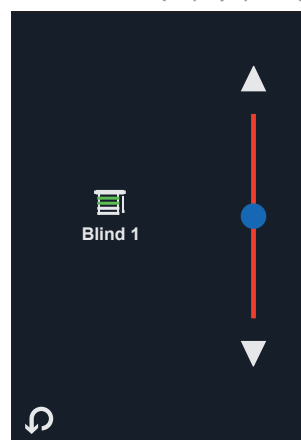

Fig. 9a 'Level'
- translatory movement "Level" (Fig.9a)